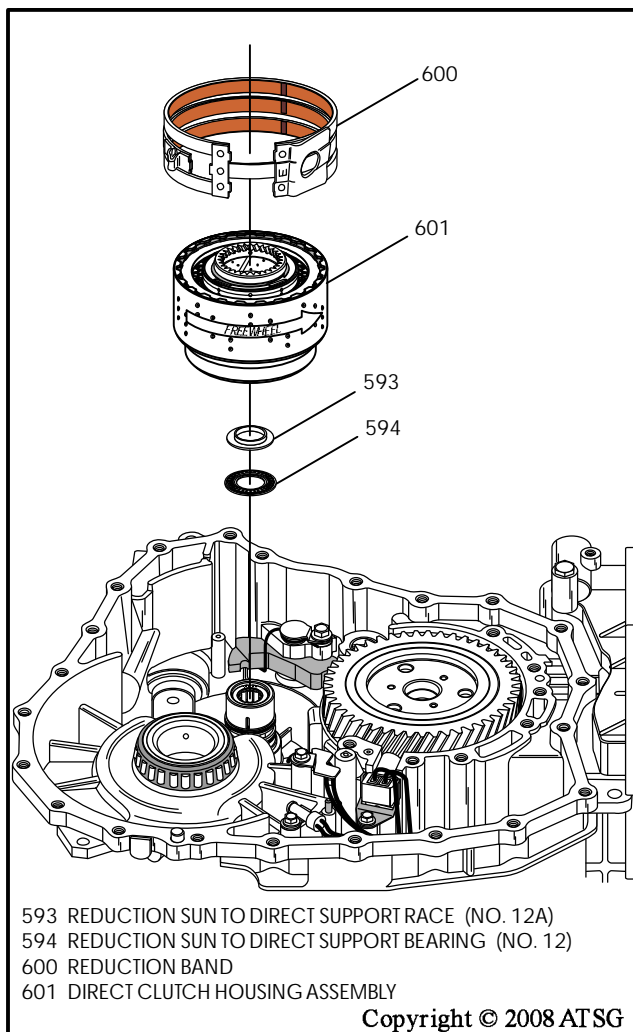

Figure 215
6. Install the number 12 thrust bearing and the number 12A thrust bearing race onto the direct clutch support, as shown in Figure 215.
7. Lubricate the inside sealing ring area of direct clutch housing with the proper fluid and install the completed direct clutch housing, as shown in Figure 215.
- Note:** After installation, direct clutch housing should freewheel counter-clockwise and lock clockwise, as shown in Figure 215.
8. Install the reduction band assembly, as shown in Figure 215, and engage with the previously installed servo pin and band anchor.